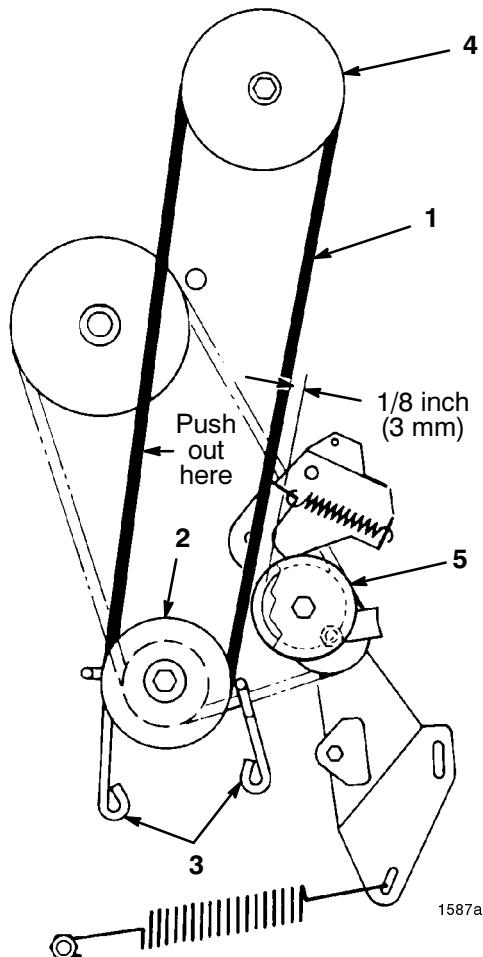

Figure 25
7. Loosen the capscrews securing (2) engine pulley belt guides and move guides away from pulley. Remove the deck drive belt from engine pulley (Fig. 25).
9. Remove (2) screws securing belt guide to mower housing and remove belt guide. Remove belt from pulley.
12. Pushing out on belt (removing slack), as shown in fig. 25, check clearance between outside of belt and inside of idler pulley (Fig. 25). Clearance should be approximately 1/8 inch (3 mm).